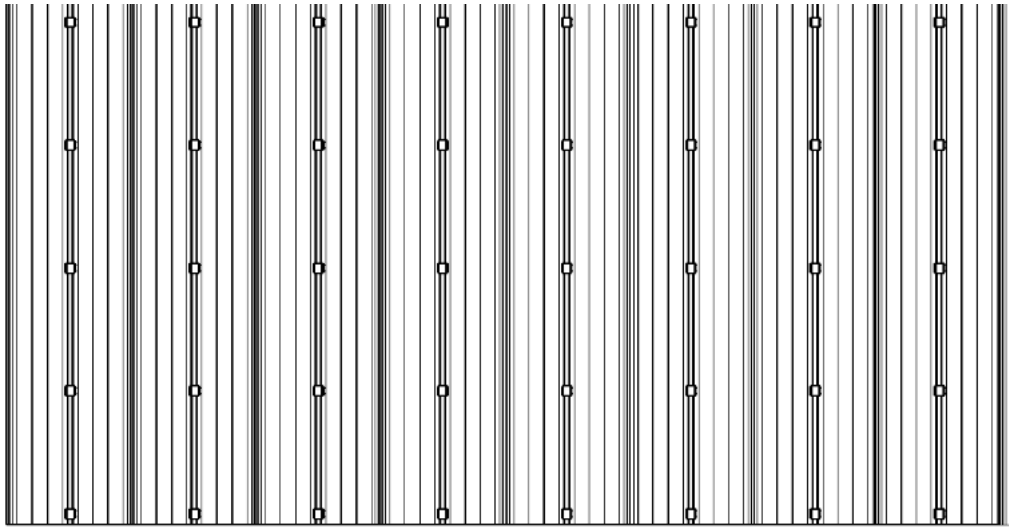
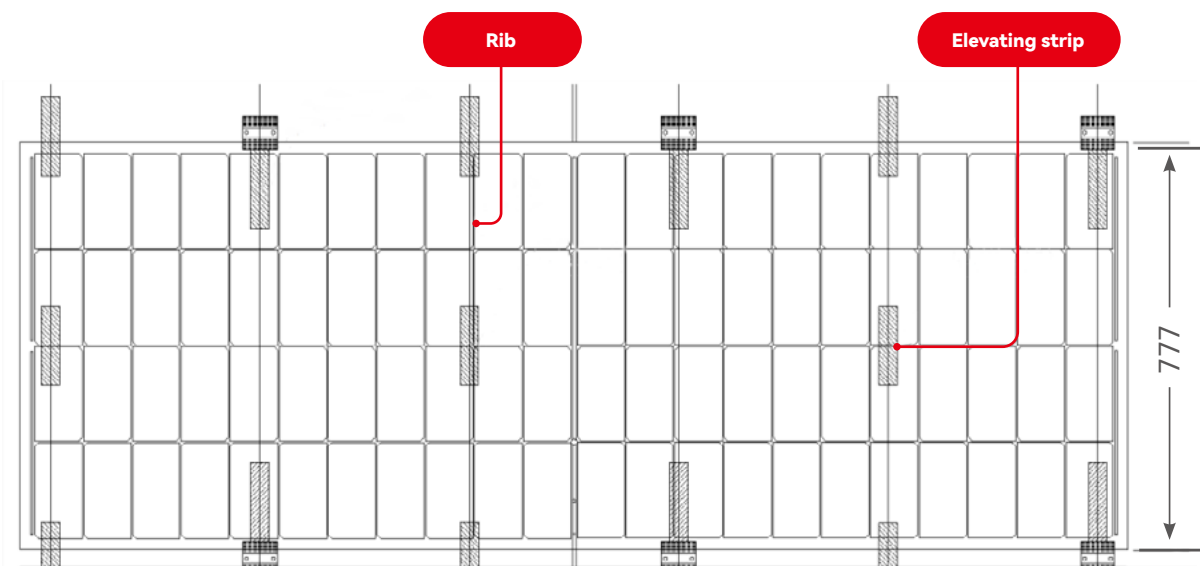

FIGURE 21
FIGURE 22
- ③ Using elevating strips on the diamond-shaped rib (Figure 21), with one end of the strips pressed against the side of the clamp and the position of each strip as shown in the diagram (Figure 22).
- ④ Installation of the remaining products in the same form as the installation of the angle-chip type colour steel tile roofing.